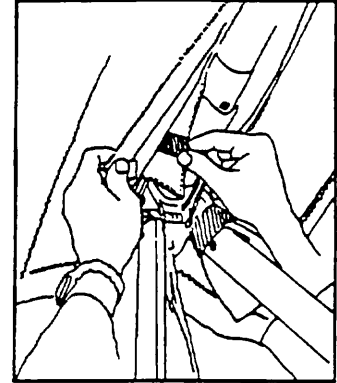

Figure 18
10) Standing under the glider just in front of and facing the control bar, remove each side of the apex protector pad from the control bar apex (if so equipped; with streamlined downtubes only) and stow it inside the double surface. (Figure 18)